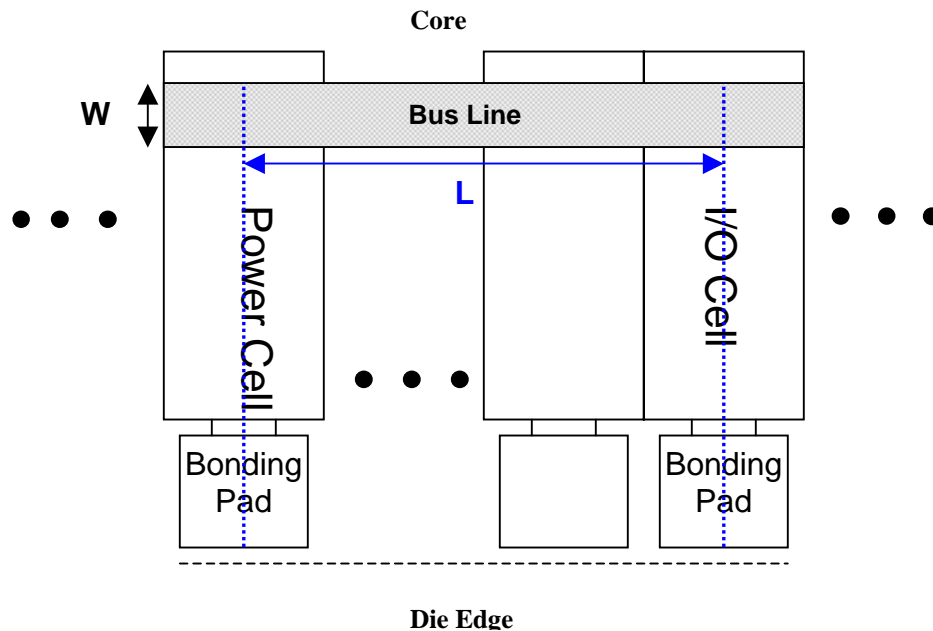

Figure 10.3 Illustration of Bus Resistance Calculation
The ESD test models include the Human Body Model (HBM), Machine Model (MM), and Charge Device Model (CDM). The HBM and MM include PD/PS (positive to V_{DD}/V_{SS}), ND/NS (negative to V_{DD}/V_{SS}), pin-to-pin (positive/negative), and power-to-ground (positive/negative) tests. Many of the test modes require the ESD discharge path from power (V_{DD}) to ground (V_{SS}) rail. To provide the shortest ESD path, it is strongly suggested to implement power cells that contains power clamp inside as many as possible if space is allowed. Moreover, **the maximum resistance “R” of the power/ground BUS line from any I/O cell to the “nearest” “bonded” power cell / to the “nearest” “bonded” ground cell is 1 Ohm for the advanced process technologies (90nm and below); 3 Ohm for 0.13um and above.** Please refer to Figure 10.3 for reference.